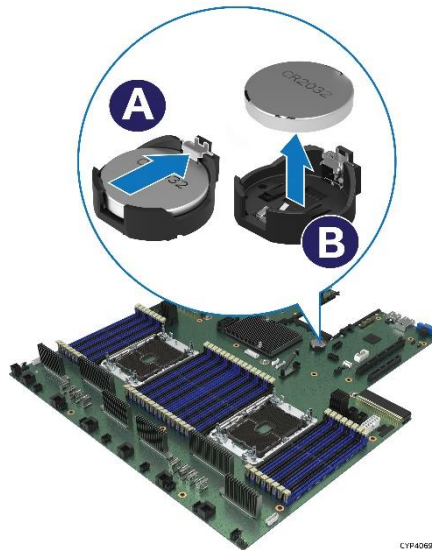

Figure 160. Replacing the System Battery
4. Locate the battery on the server board (see Figure 160).